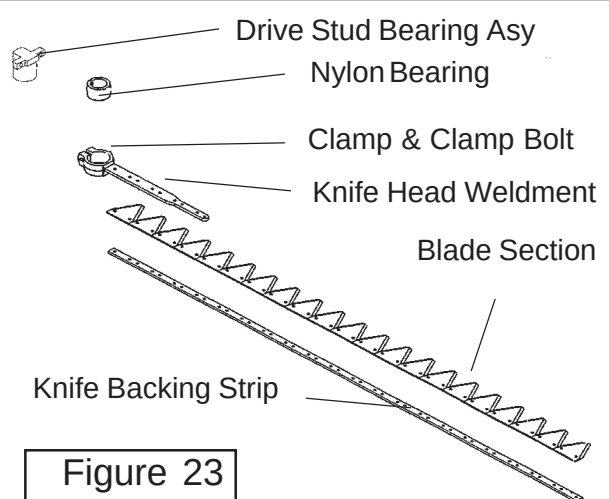

Figure 23
6. **Or 2 nd.** there is a clamp bolt on the Knife Head Weldment, loosen the clamp bolt, this will allow the Knife drive stud bearing to pull out of the knife head weldment clamp or off the knife drive stud bearing assembly. (See Figure 23 & 24) Once the drive assembly has been lifted off you will see a nylon bearing in the knife bar head clamp, it should have stayed in the clamp or it could have stayed on the knife drive stud bearing assembly (See Figure 23 & 27)